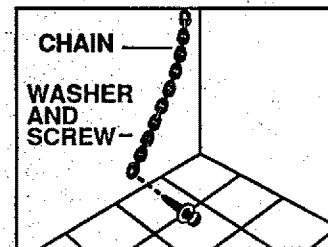
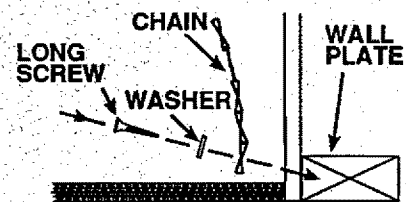

Fig. 2
Fig. 3
The range is designed to provide a minimum of 1" air gap at the bottom of the range. See Fig. 2. (Example: When legs are screwed all the way into the base rail.)
Build the filler as shown in Fig. 3. Make sure to provide the 3/4" gap at the top and the 5/16" gap at the bottom. These gaps will provide the proper ventilation as mentioned before.
2) Fasten one end of the stability chain to the floor or the wall with the long screw and washer supplied (See Fig. 2). Make certain the screw is going into the wall plate at the base of the wall or one of the studs in the base of the wall (See Fig. 3). Whether you attach the chain to the wall or floor, be certain that the screw is in at least 3/4" thickness of wood other than baseboard and that there are no electrical wires or plumbing in the area in which the screw could penetrate. Attach the stability chain in a location which will allow the chain to be in line with the bracket side to side as much as possible when attached to the unit. Test to see if the chain is securely fastened by tugging on the chain.